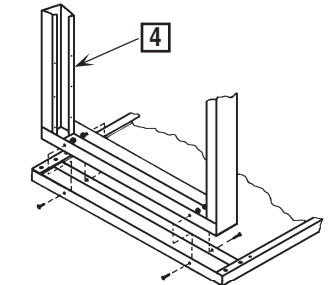

FIGURE 2
- Stand leg weldment (Item 4) in place. (Leg fits inside attachment channel). Position leg so that holes in the sides of the leg weldment are in line with the holes in the sides of the attachment channel. Loosely fasten leg and channel together with (4) screws and nuts (Items 6 & 7) as provided in **hardware pack 293**. See Figure 2. Repeat procedure at the other end.